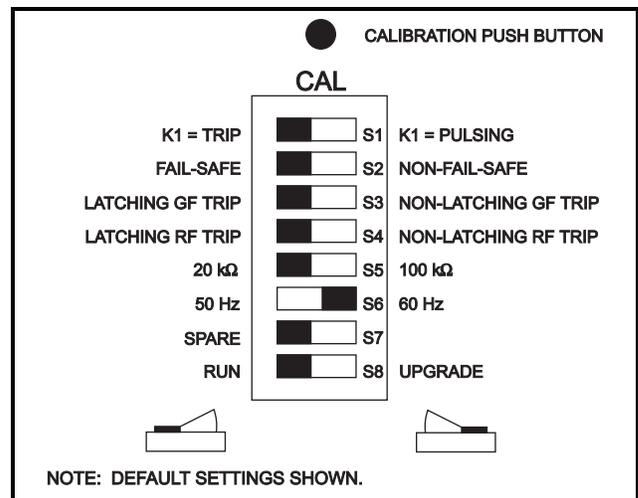

FIGURE 1. Configuration Switches.
- h) Set switch S8 (behind access cover on the PGR-5330 front panel) to UPGRADE. See Fig. 1.